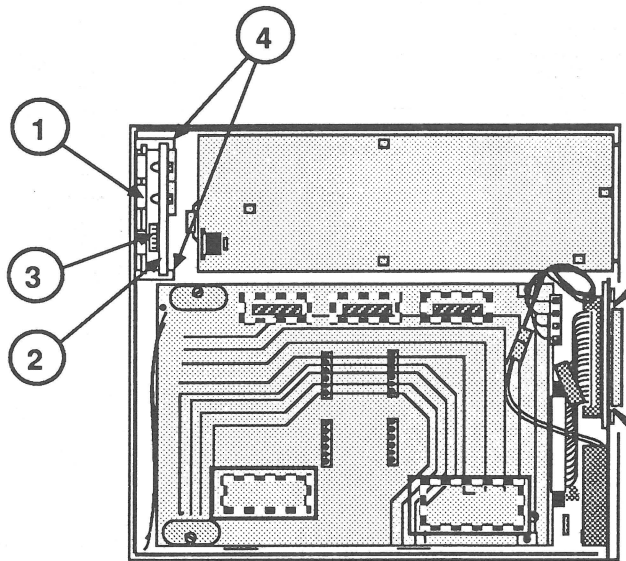

FIGURE 3
2. Push the metal LED shield (Figure 3, #1) forward and lift out the LED board (Figure 3, #2).
3. Disconnect the LED cable (Figure 3, #3) from the LED board.
1. Connect the LED cable (Figure 3, #3) to the LED board.
2. While pushing the metal LED shield (Figure 3, #1) forward, slide the side edges of the LED board (Figure 3, #2) into the slots of the holding tabs located on the inside of the case bottom (Figure 3, #4).